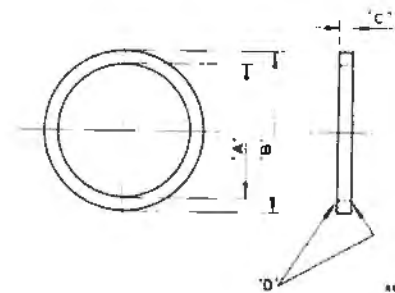

Fig. J21 Distance piece for crown wheel checking
1. Make up distance pieces as shown in Figure J21.